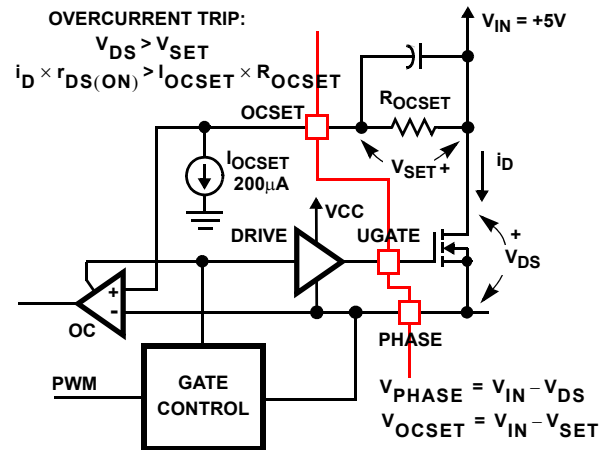

FIGURE 9. OVERCURRENT DETECTION
An external resistor (R_{OCSET}) programs the overcurrent trip level for the PWM converter. As shown in Figure 9, the internal 200mA current sink (I_{OCSET}) develops a voltage across R_{OCSET} (V_{SET}) that is referenced to V_{IN} . The DRIVE signal enables the overcurrent comparator (OC). When the voltage across the upper MOSFET ($V_{DS(ON)}$) exceeds V_{SET} , the overcurrent comparator trips to set the overcurrent latch. Both V_{SET} and V_{DS} are referenced to V_{IN} and a small capacitor across R_{OCSET} helps V_{OCSET} track the variations of V_{IN} due to MOSFET switching. The overcurrent function will trip at a peak inductor current (I_{PEAK}) determined by: